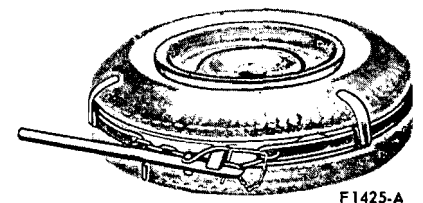

FIG. 4 Tubeless Tire Mounting Band
4. Hold the beads against the rim flanges by positioning a tire mounting band over the tire (Fig. 4). If a mounting band is not available, tie a tourniquet of heavy cord around the circumference and in the center of the tire. Tighten the cord with a tire iron. Center the tire on the wheel with a rubber mallet.